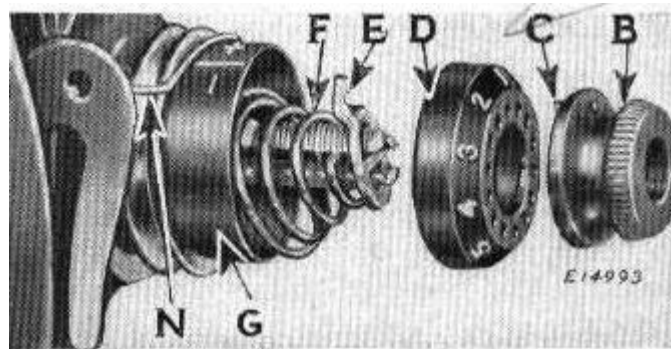

Fig. 1d
Next, replace the indicator (G) with the large open side facing the end of the stud and so that the plus and minus marks will be at the top with the minus sign to the left. Then insert the tension spring (F) in the indicator with the first (half) coil of the spring straddling the lower half of the stud as shown in Fig. 1d. Place the stop washer (E) on the stud so that the extension will be above the tension stud.